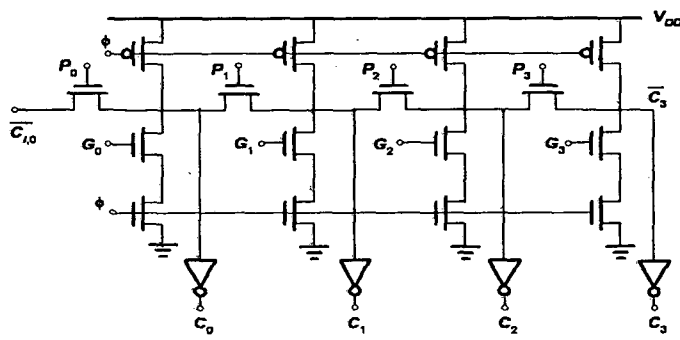

Figure 8
- 14.(b)(i) The circuit given in Fig. 8 is a carry generation circuit. What are P and G signals? Determine the expression for carry generation. Derive the critical path delay of this circuit. (8)
- (ii) Give the architecture of a 4X2 array multiplier and derive its critical path delay. (8)